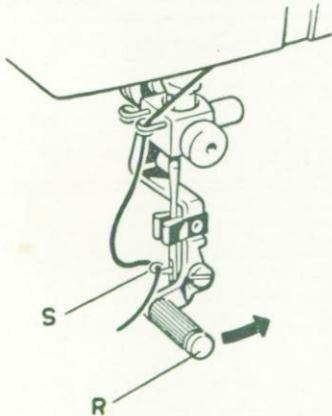

Fig. 6
- Bring knob « R » downward until hook « S » will pass through the eye of the needle (fig. 6);